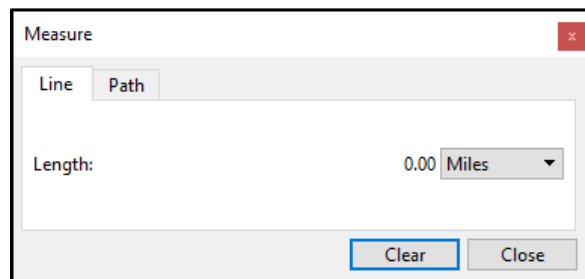

Figure 34. The Measure Tool
1. Open the Measure Tool (Figure 34) by clicking the  button on the toolbar or selecting Measure Tool from the View menu of the Main Window (Figure 1).